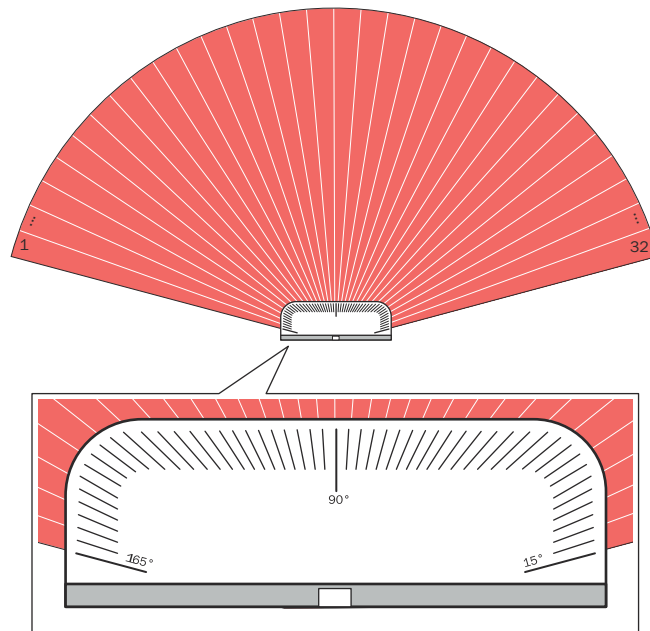

Figure 4: Detection zone consisting of 32 segments
The multibeam scanner uses 8 geometrically arranged sensor modules to build up a gapless detection zone. Each sensor module has its own light source that emits a light pulse. The light pulse of each sensor module is divided into 4 segments, so the detection zone of the multibeam scanner consists of 32 segments. The 32 segments are numbered from left (1) to right (32) (when viewing the sensor from above, see figure 4, page 11).